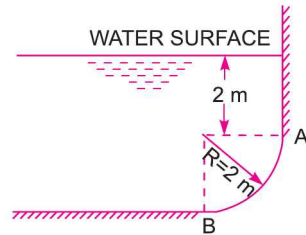

Fig. 3.57
18. Find the horizontal and vertical components of the total force acting on a curved surface AB, which is in the form of a quadrant of a circle of radius 2 m as shown in Fig. 3.57. Take the width of the gate 2 m. [Ans.  $F_x = 117.72 \text{ kN}$ ,  $F_y = 140.114 \text{ kN}$ ]